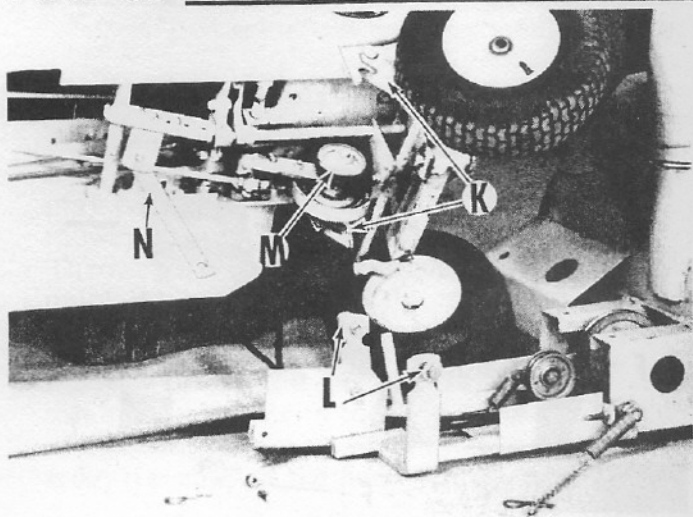

Fig. 17
Move tractor forward over mounting bracket until tractor attachment couplers (K) are in alignment with Snow Thrower mounting bolts (L). Raise mounting bracket upward and thread V-belt over tractor jackshaft pulley (M) (Fig.17). Then raise mounting bracket into mounting couplers (K) and snap coupler hooks shut. Secure both couplers with hair cotter pins.